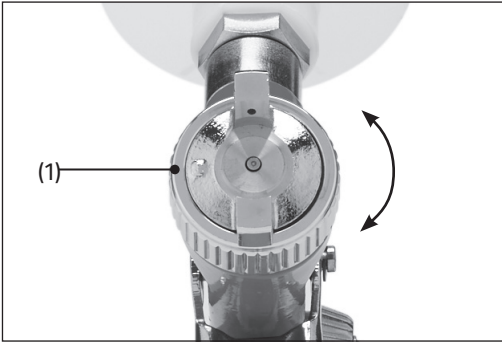

Fig. 12
Once the spray pattern has been set using the control dial, rotate the air cap (1) to change the orientation of the jet (Fig. 12).